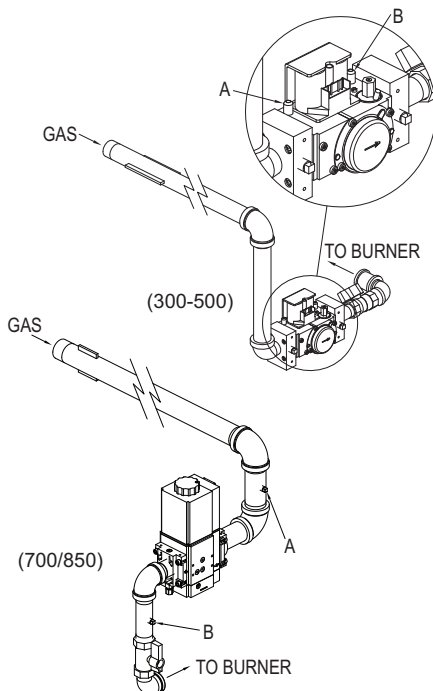

Fig. 35: Gas Pressure Measurement Locations
3. Attach (1) 12" scale manometer to the upstream fitting on the gas supply pipe to the heater (Measure point "A" in Fig. 35. Field-supplied on the 700 and 850 models).
4. Attach (1) 12" scale manometer to the downstream fitting on the gas manifold (Measure point "B" in Fig. 35. Field-supplied on the 700 and 850 models).
5. Attach (1) 12" scale manometer to the tapping on the filter box. Pull black cap from air pressure switch tee and connect the manometer. NOTE: Retain caps for reinstallation later.
1. Check manifold gas pressure at the manifold pressure tap (connection "B" in Fig. 35). This pressure should read per the values in Table S for natural and propane gas.